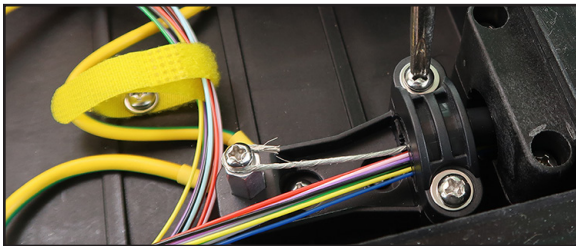

Figure 1-12: Secure the upper press clamping
- 11 Secure the upper press clamping (Figure 1-12).